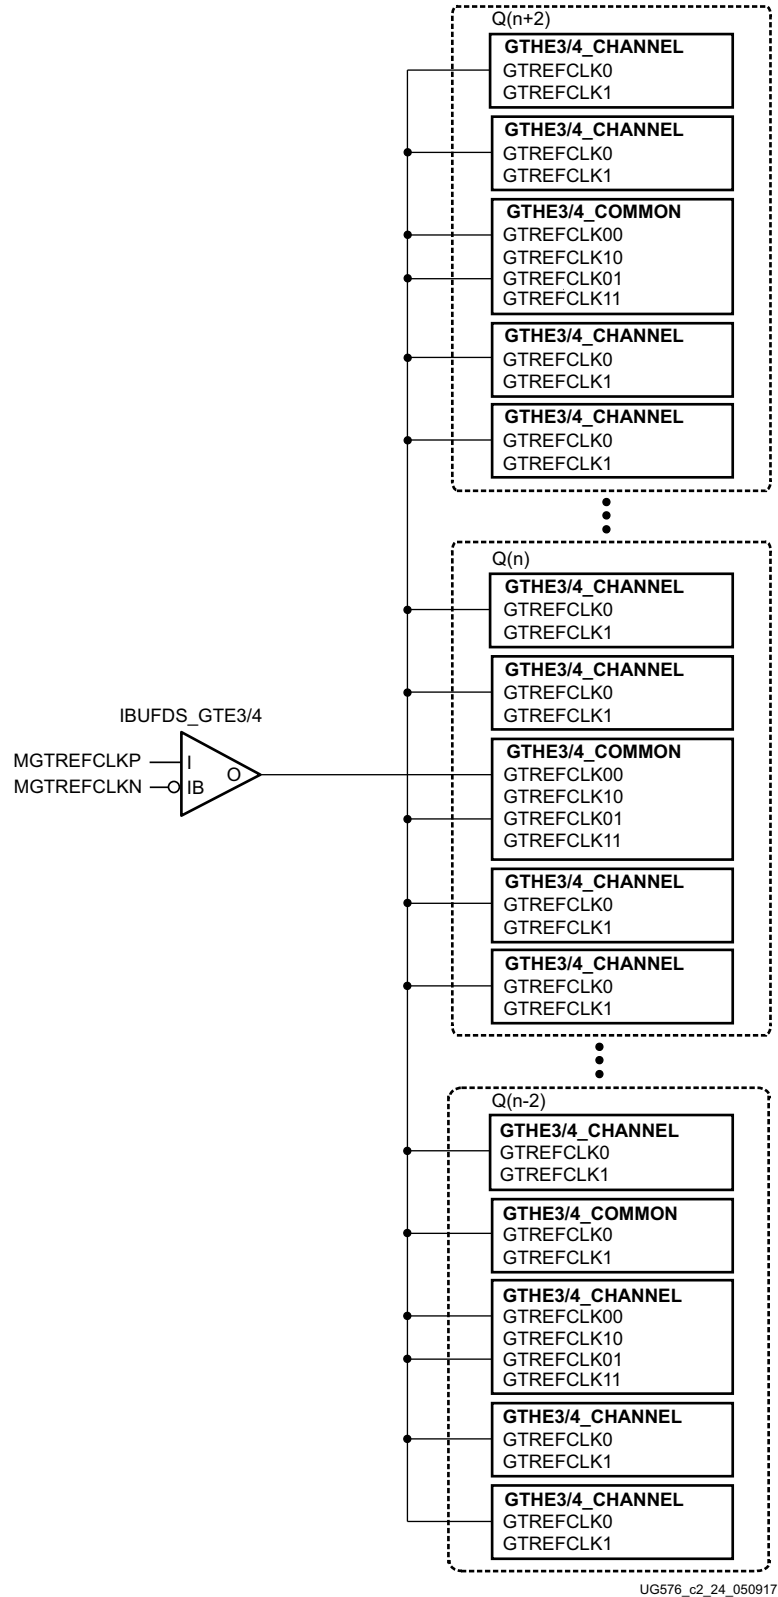

Figure 2-7: Single External Reference Clock with Multiple Transceivers in Multiple Quads
Figure 2-7 shows a single external reference clock with multiple transceivers connected to multiple Quads. The user design connects the IBUFDS_GTE3 output (O) to the GTREFCLK0 ports of the GTHE3/4_COMMON and GTHE3/4_CHANNEL primitives for the GTH transceiver. In this case, the Xilinx implementation tools make the necessary adjustments to the north/south routing as well as pin swapping necessary to route the reference clocks from one Quad to another when required.
Note: The IBUFDS_GTE3/4 diagram in Figure 2-7 is a simplification. The output port ODIV2 is left floating, and the input port CEB is set to logic 0.